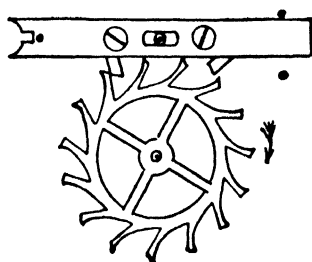

Fig. 57.—Action of Waltham Lever Escapement
**Waltham Lever Escapement.**—The escape wheel of a Waltham watch is of the club-tooth variety (see Fig. 57), so called to distinguish it from the straight-
In Fig. 57 one escape wheel tooth is resting on the locking face of the entering or first pallet. If, now, the lever is moved a little away from the banking pin, this tooth will be liberated, and pass across the inclined impulse face of the pallet, giving an "impulse" to the lever, until it drops off the corner and another tooth falls on the locking face of the exit pallet. The important point to notice is that the teeth points fall on the locking faces of the pallets and not on the impulse faces. They should not fall far up the locking faces, but just safely past the corners, so that a very little movement of the lever will liberate them.